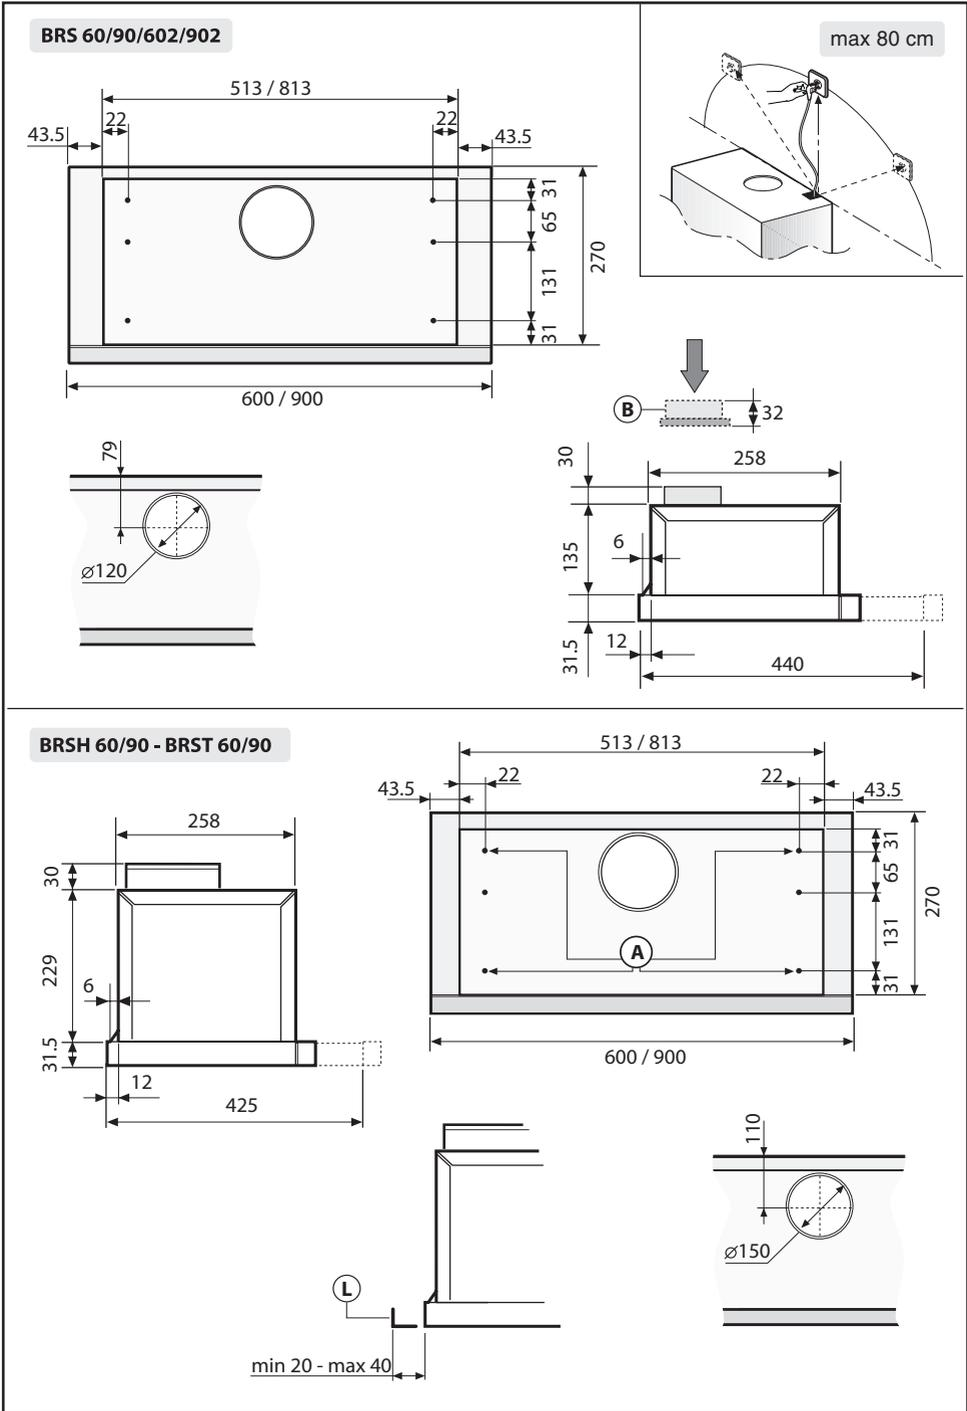
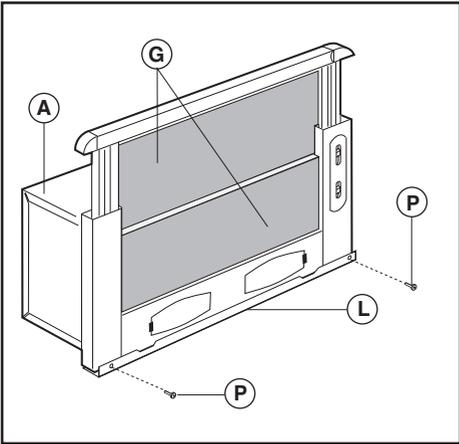

Fig.1
Fig.2
Mounting the rangehood on the lower side of the cupboard. This appliance must be fitted to a cupboard or other suitable support. For fixing use 4 screws suitable for the cupboard, using the hole in Fig.1. When mounting align the front of the rangehood to the door of the cupboard and regulate the L wall spacer through the screws marked P (Fig. 2). The rear of the appliance must then align with the cupboard.
To transform the rangehood from the extraction version to the re circulating one ask your supplier for an activated carbon filter. The activated carbon filter cleans the air of the room. This filter is not washable or re-usable and must be substituted at least every 4 months. Saturation of the activated carbon depends on how often the appliance is used, the type of kitchen and how regularly the grease filter is cleaned. The filter must be fitted to the motor in the centre of the fan grille by twisting it by 90 degrees until it is gripped securely. Remove the grill (G) fig. 2 to carry out this operation. The clean air is returned into the room through a connecting tube passing inside the cupboard and connected to the ring B (Fig.1).